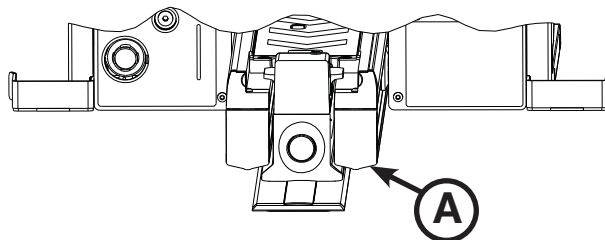

Figure 24: Dead Stop Bumper Hump
**Note:** Position the dead stop bumper, so that the hump (A) is on the bottom as shown in Figure 24.